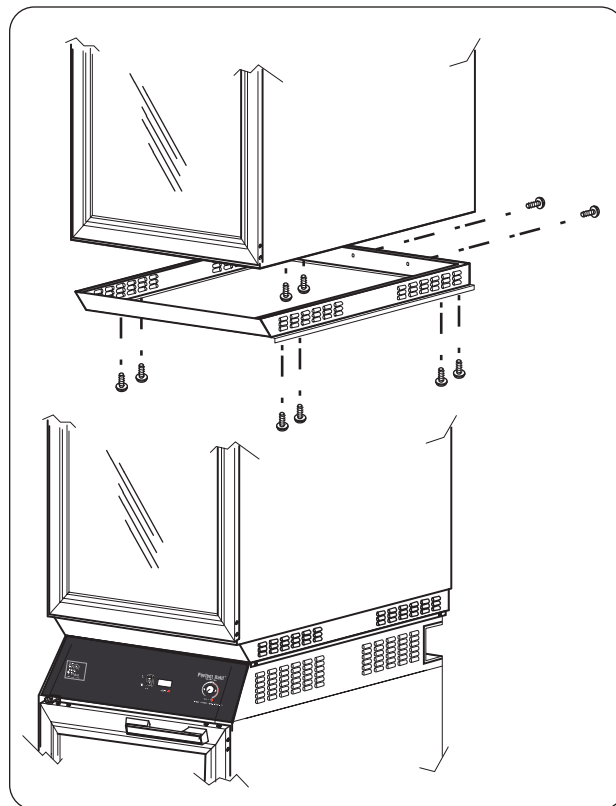

Figure 7. Stacking Kit
2. Attach stacking bracket to underside of top unit using hardware supplied. (See Figure 7.)
4. Secure two units by installing two screws on the rear of the unit through the stacking bracket and into the holes on the back of the bottom unit. (See Figure 7.)